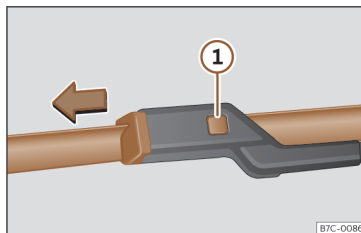

Fig. 173 Changing the windscreen wiper blades
- Press and hold release button >>> **Fig. 173** ① and pull gently on the wiper blade in the direction of the arrow.